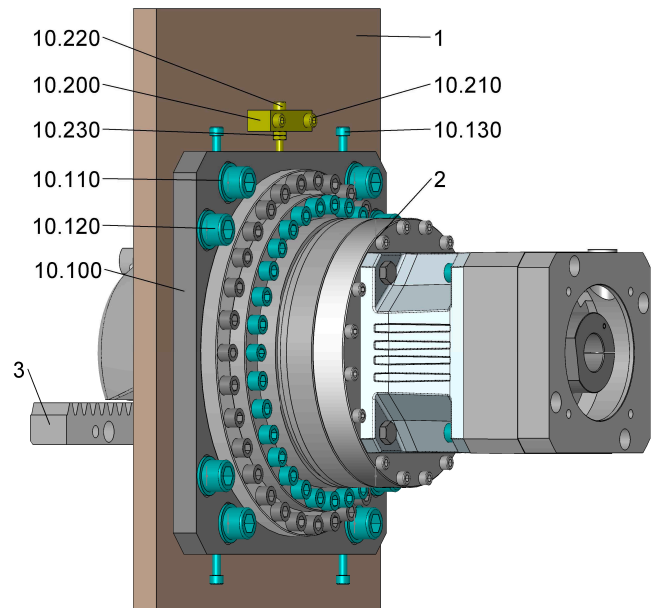

Fig. 2-1 Mounting the adjustment plate
**Follow these steps to mount the gear unit with the adjustment plate on the machine (see also Fig. 2-1):**